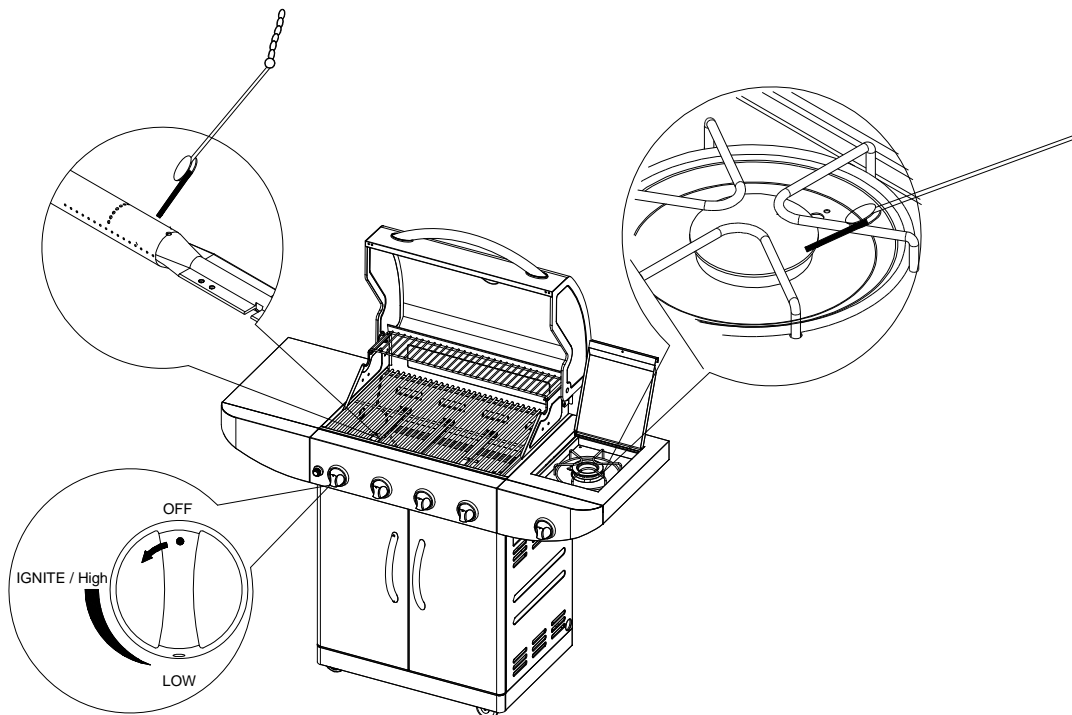

Fig. 24 Match/Paper Lighting Illustration
4. Attach either the match or paper to the clip (Fig. 24), light the match and insert it close to the ports of the burner, and push and turn the depressed knob to the left to "HIGH" position.